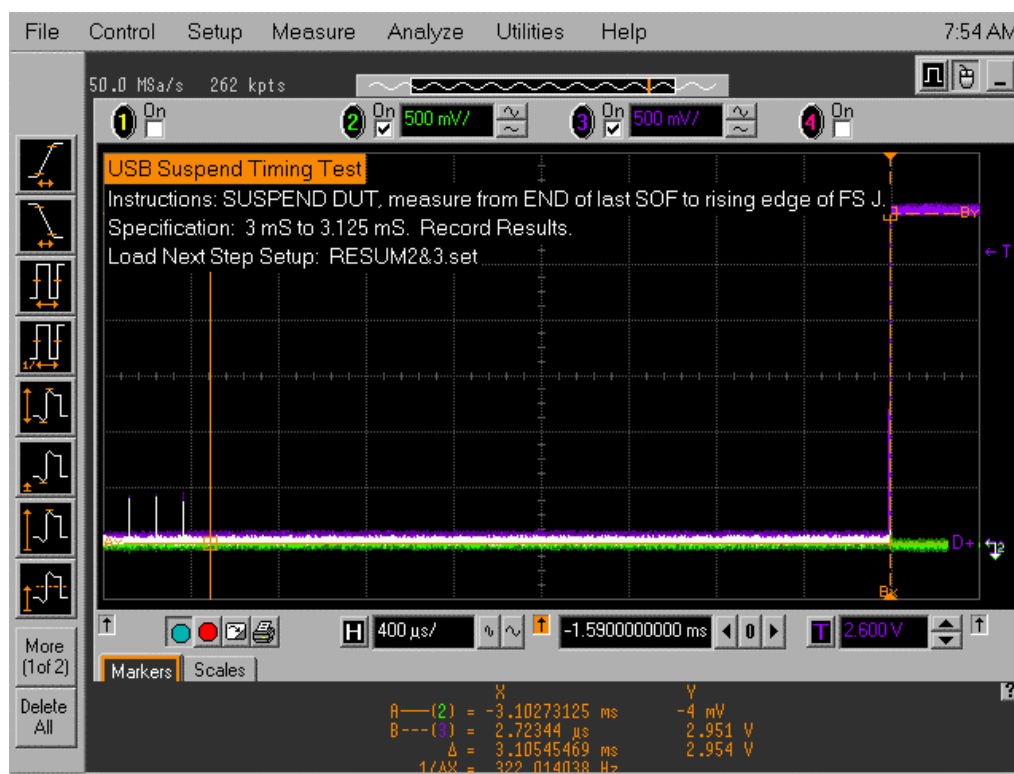

Figure 27. Device Enters Suspend
- d. The captured suspend transition should appear as in Figure 27.